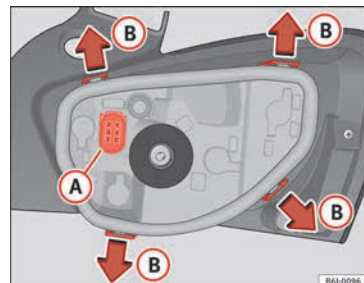

Fig. 109 Changing the tail light bulbs
- Remove the bulb holder, separating it from the casing. To do this, press tabs **(B)** in the direction of the arrows » **Fig. 109**.